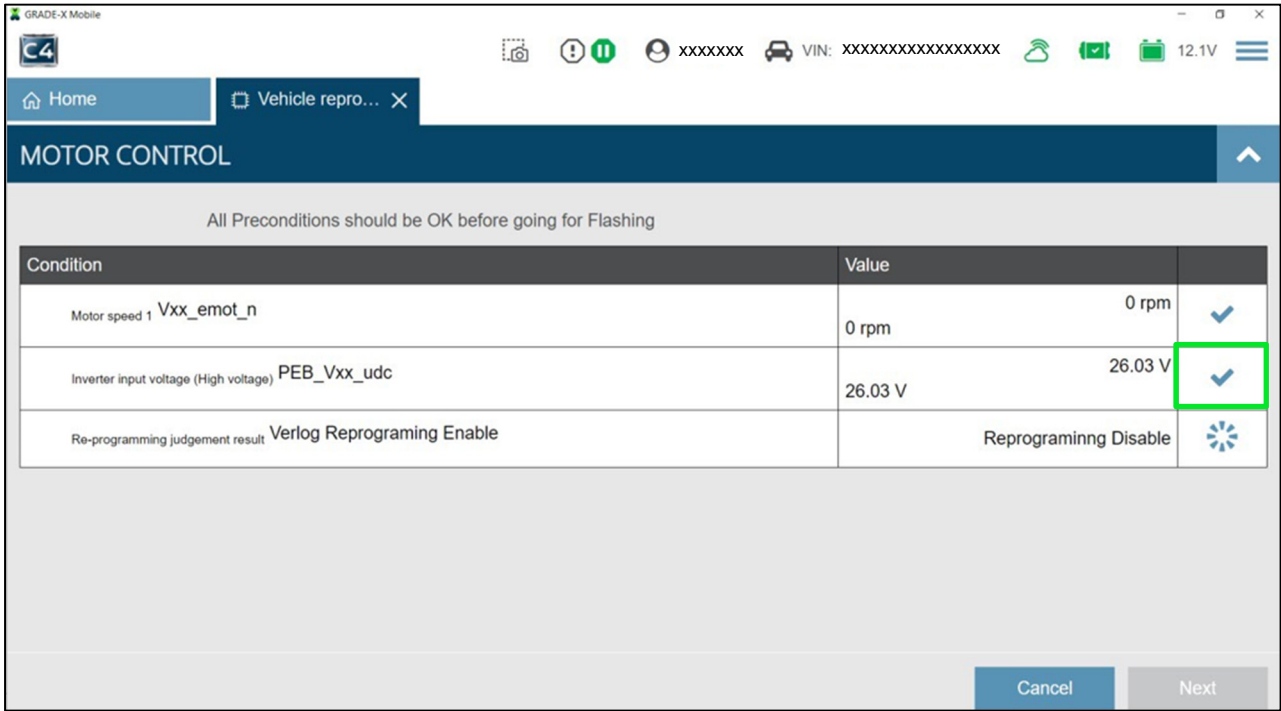

Figure 14
- 19. Once the **Inverter input voltage (High voltage) PEB\_Vxx\_udc** shows the check mark, as shown in Figure 14, press the power switch one time to turn the ignition to ACC mode.